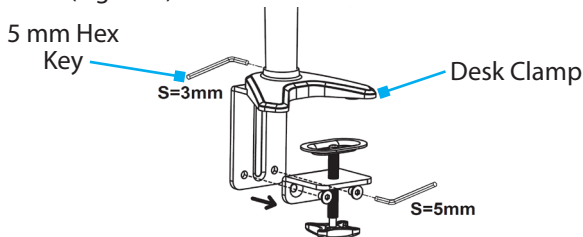

Figure 1
1. Remove the **Screws (x2)**, located at the bottom of the **Desk Clamp**, using the **5 mm Hex Key**, and remove the **Bottom Plate**. (Figure 1)